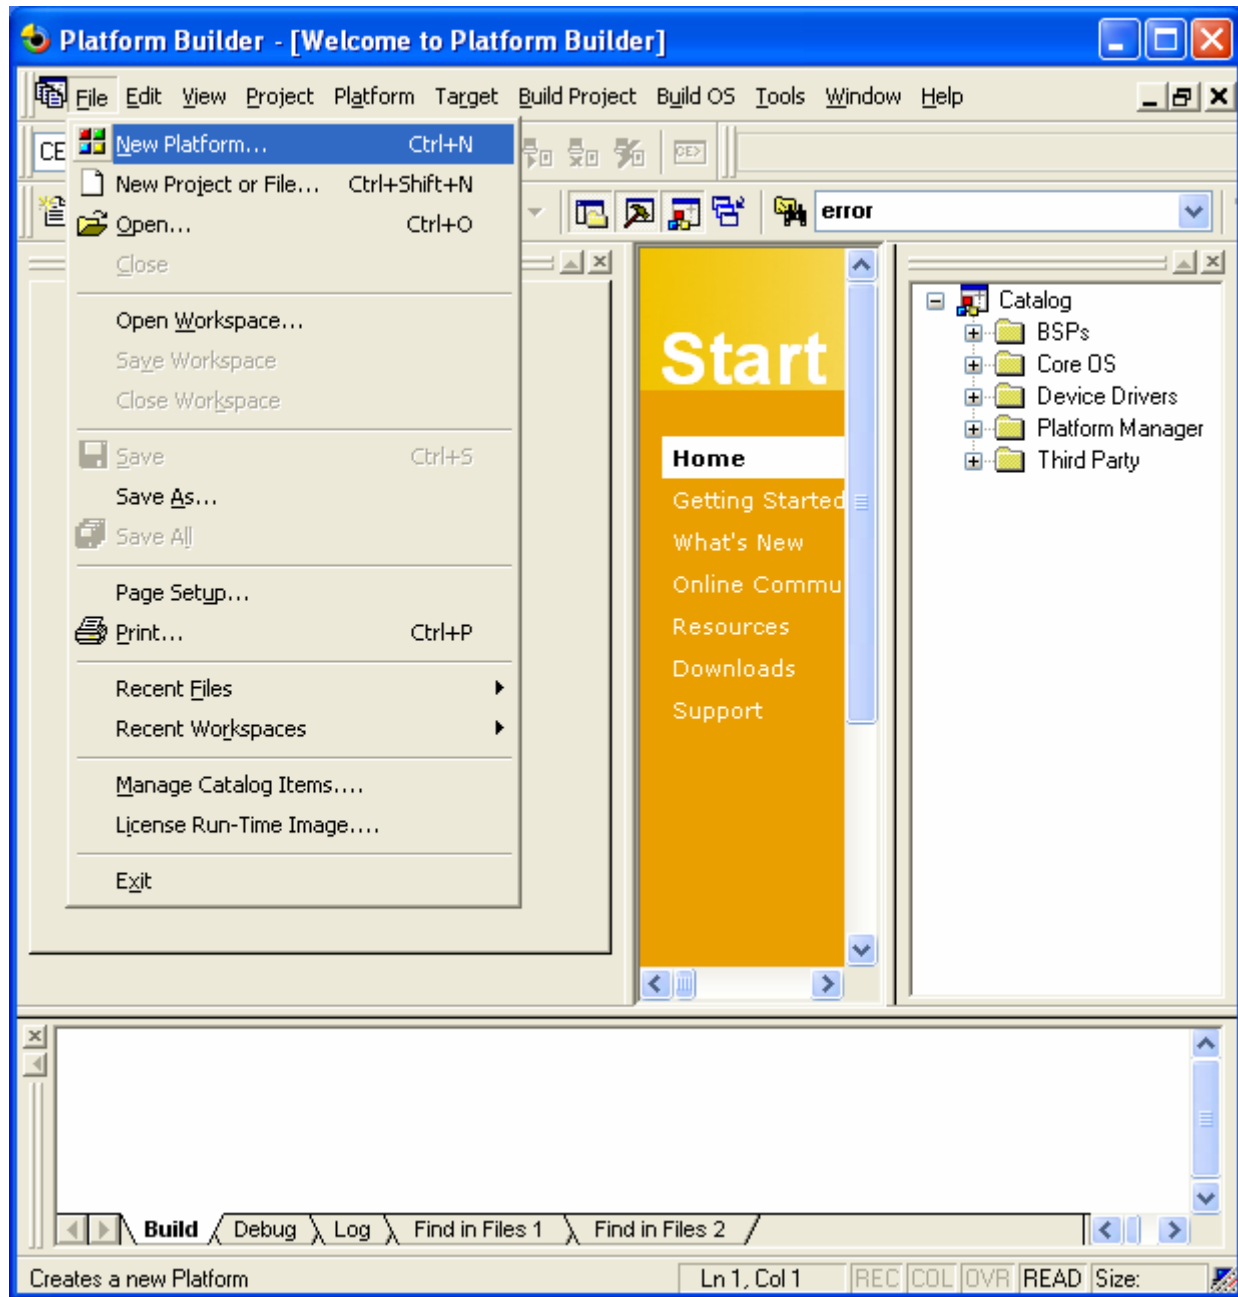

Figure 3-1 Creating New Platform
1. On the File menu in the Platform Builder window, click New Platform... as shown in figure 3-1.